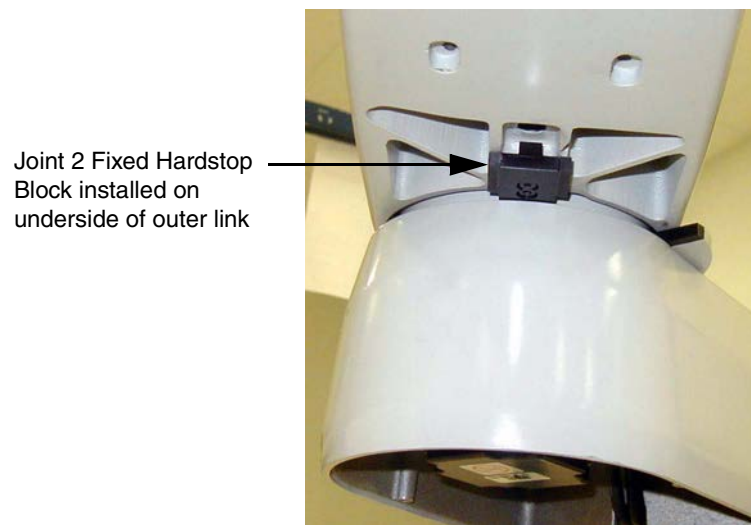

Figure 6-18. Fixed Hardstop Device for Joint 2
3. Slide the fixed hardstop block into the slot on the underside of the outer link. See Figure 6-18.